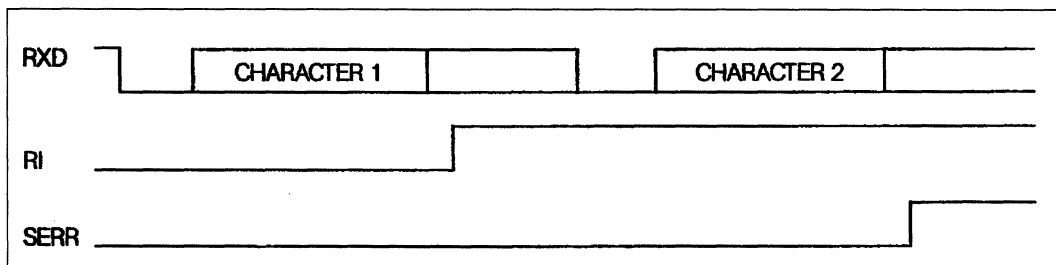

Figure 32 : SERR = 1 signals an error in the received character (OVERRUN).
- SERR = 1, indicates that the previously received character has not been read and has been replaced by the next character. In figure 32, a first character has been received and flag RI is set at 1. A second character is received before the first character has been read (RI is still at 1). The first character is lost and the SERR flag is raised to 1 to signal this error.